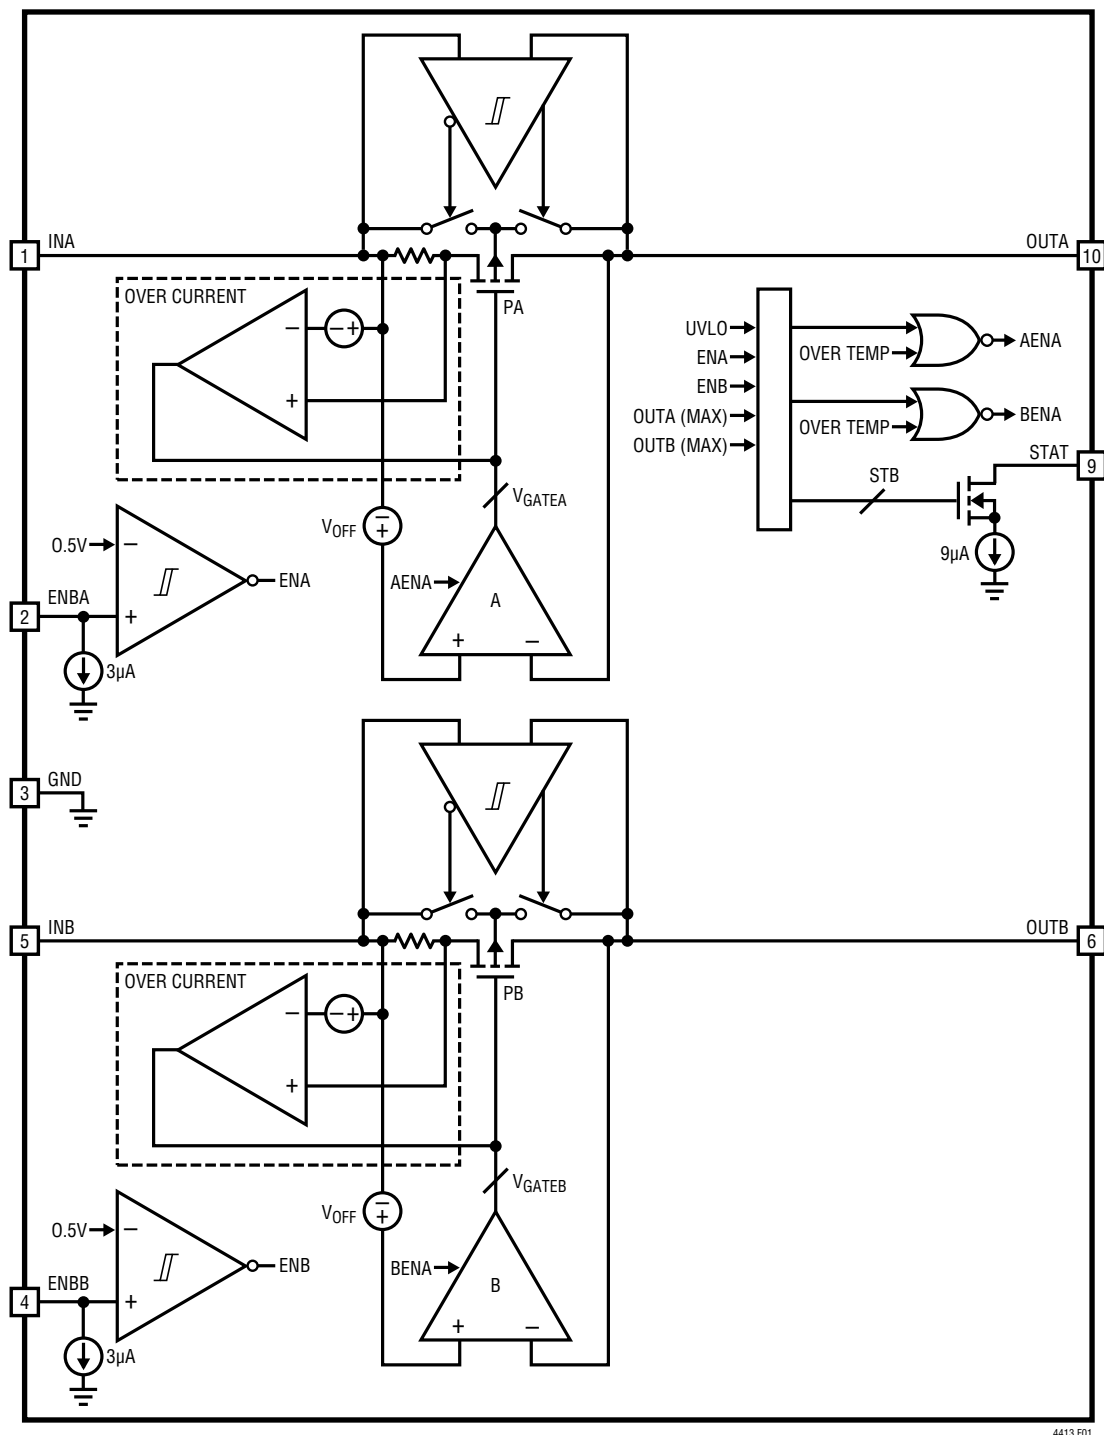
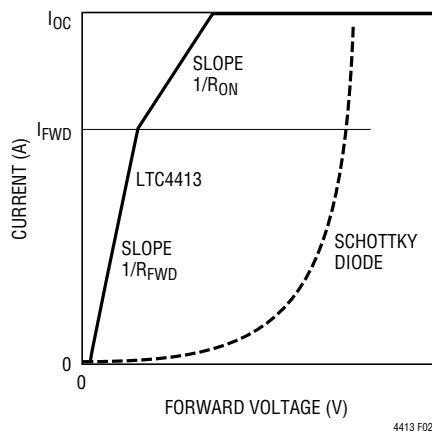

Figure 1
Figure 2
The LTC4413 is described with the aid of the Block Diagram (Figure 1). Operation begins when the power source at  $V_{INA}$  or  $V_{INB}$  rises above the undervoltage lockout (UVLO) voltage of 2.4V and either of the ENBA or ENBB control pins is low. If only the voltage at the  $V_{INA}$  pin is present, the power source to the LTC4413 ( $V_{DD}$ ) will be supplied from the  $V_{INA}$  pin. The amplifier (A) pulls a current proportional to the difference between  $V_{INA}$  and  $V_{OUTA}$  from the gate ( $V_{GATEA}$ ) of the internal PFET (PA), driving this gate voltage below  $V_{INA}$ . This turns on PA. As  $V_{OUTA}$  is pulled up to a forward voltage drop ( $V_{FWD}$ ) of 20mV below  $V_{INA}$ , the LTC4413 regulates  $V_{GATEA}$  to maintain the small forward voltage drop. The system is now in forward regulation and the load at  $V_{OUTA}$  is powered from the supply at  $V_{INA}$ . As the load current varies,  $V_{GATEA}$  is controlled to maintain  $V_{FWD}$  until the load current exceeds the transistor's (PA) ability to deliver the current as  $V_{GATEA}$  approaches GND. At this point the PFET behaves as a fixed resistor with resistance  $R_{ON}$ , whereby the forward voltage increases slightly with increased load current. As the magnitude of  $I_{OUT}$  increases further (such that  $I_{LOAD} > I_{OC}$ ), the LTC4413 fixes the load current to the constant value  $I_{OC}$  to protect the device. The characteristics for parameters  $R_{FWD}$ ,  $R_{ON}$ ,  $V_{FWD}$  and  $I_{OC}$  are specified with the aid of Figure 2, illustrating the LTC4413 forward voltage drop versus that of a Schottky diode.